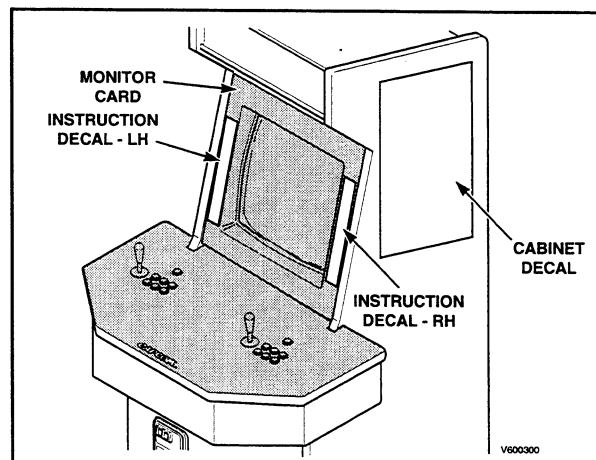

FIGURE 5
20. Peel-off the backing to the instruction decals and place on both the left and the right sides of the monitor card. (See Figure 5). Also, apply the cabinet decals to both sides of the cabinet.
21. Reconnect the existing JAMMA connectors to the control panel according to the chart in Figure 5.